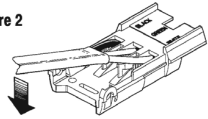

Figure 3
3. Hold wires in place and cover firmly. Place pliers so the jaw flats are parallel and press evenly to close. (Fig.3)